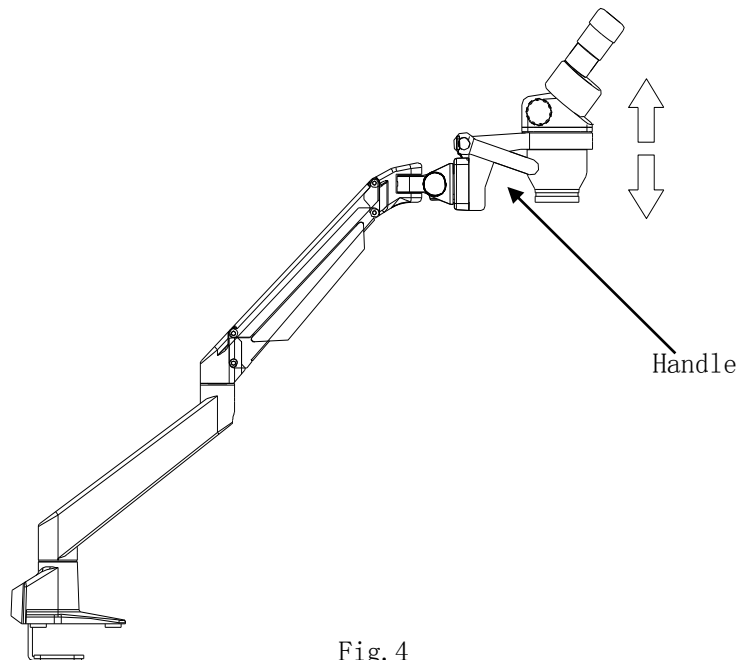

Fig. 4
3.4.2 For ZSM100B: Look through the eyepieces, adjust the microscope level by the handles(fig. 4) to focus the image;